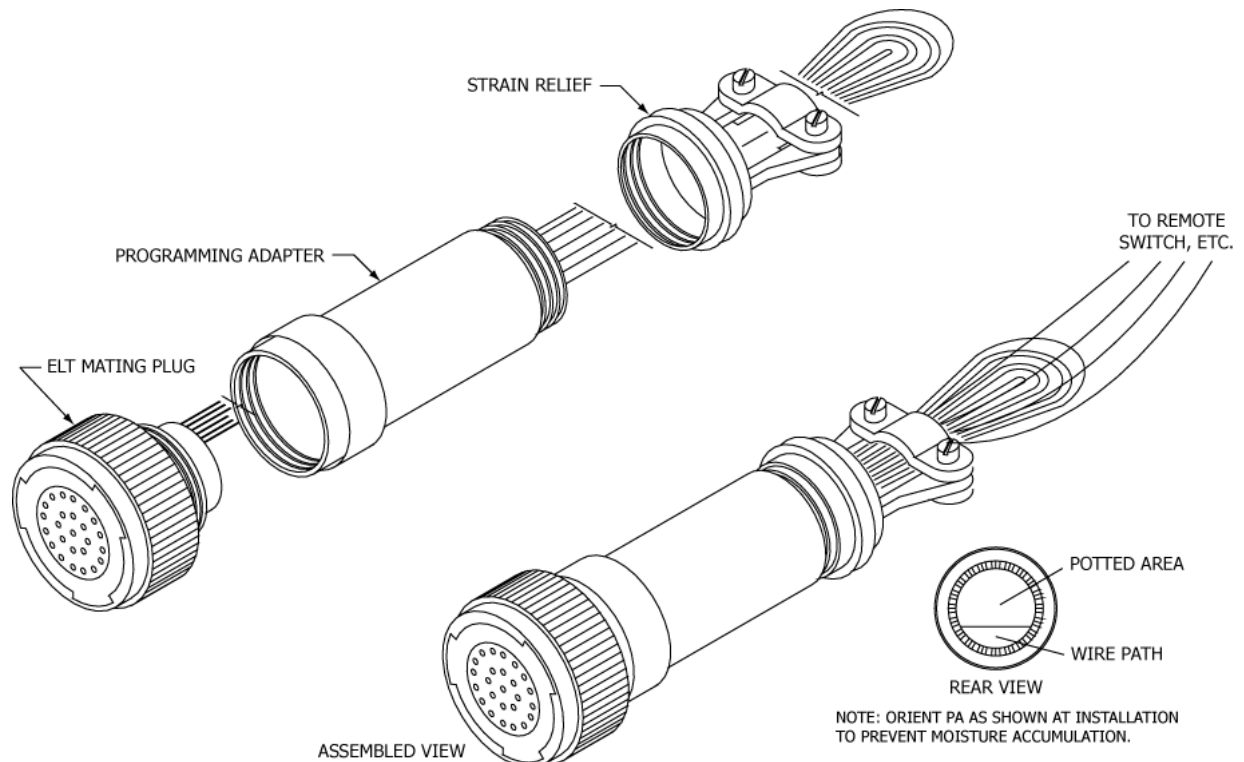

Figure 28 Programming Adapter
- 2) If the PA is undergoing installation on an aircraft with an existing ELT and remote switch harness, perform the following procedure, otherwise proceed to Step (3):
- 3) Loop the PA wires back through the wire path such that they exit at the front of the PA. See Figure 28 Programming Adapter on page 72.
- 1) Screw the PA body (i.e., back shell extension) onto the ELT plug, taking care not to twist the wires while rotating the back shell extension coupling. See Figure 28 Programming Adapter on page 72 for PA body orientation.